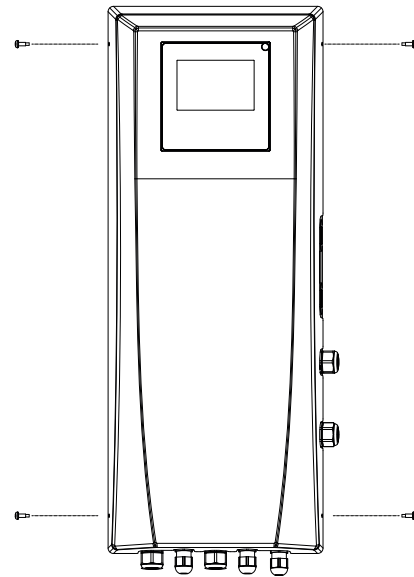

Figure 57. Front Panel Removal
4. Remove the front panel of the control box by removing the screws indicated in *Figure 57*.
6. Refit the front panel and the fixings as indicated in *Figure 57*.